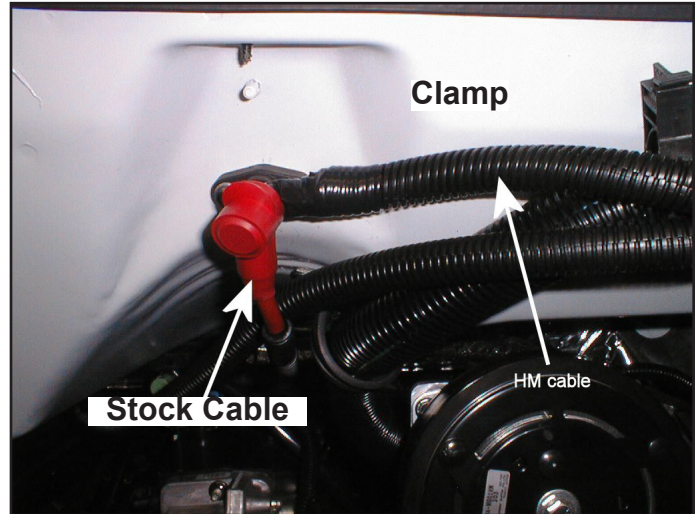

Figure 41. Mount Terminal Block to Firewall
1. Mount the terminal block to the firewall. This eliminates the need to cut off the original ring connector or splice the wire (see Figure 41 for mounting).